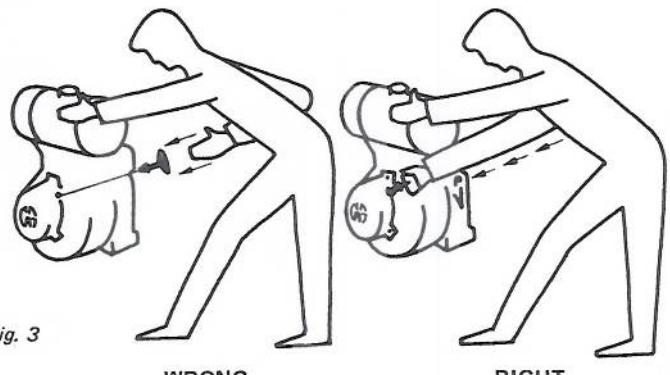

Fig. 3
- By means of a recoil starter: Pull strongly on the rope. After starting the engine, do not let the handle out of your hand but accompany it back to the starter housing (see fig. 3).